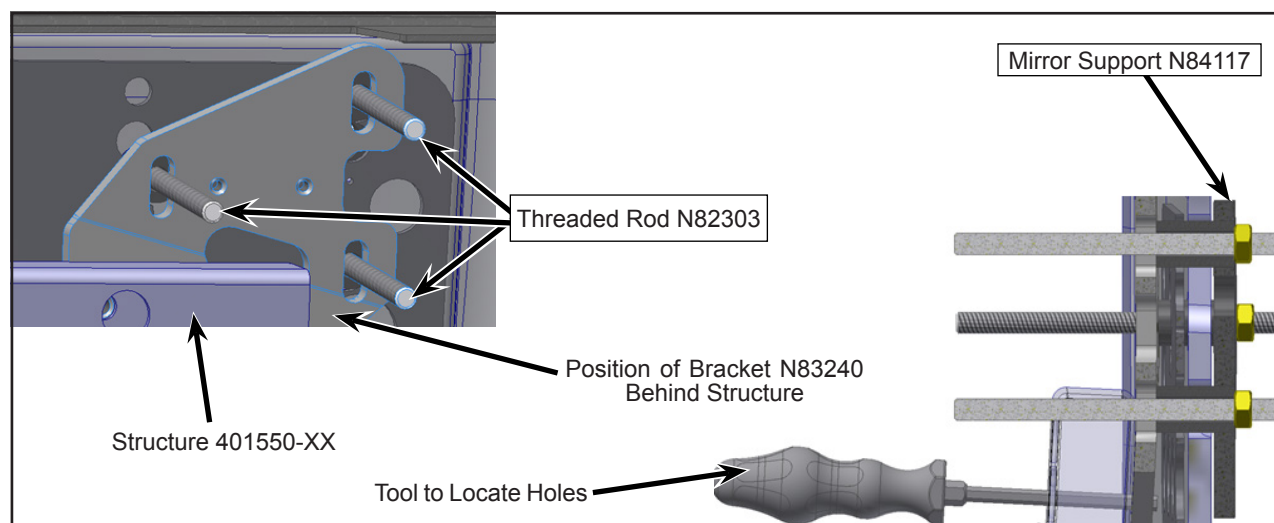

Figure 18 - Location of Tools and Jig Kit on the Structure
- 1.20. Place LH mirror support assembly N84119 and insert threaded rod (3x) N82303 with nut (3x) N16648 (see Figure 18).
- 1.21. Locate the bracket with the help of a tool (see Figure 18).